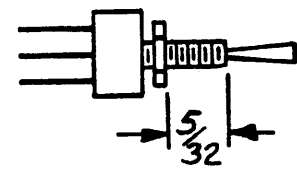

FIG. 10-1
- () Position the hex nut on the reset switch as shown in Fig. 10-1.